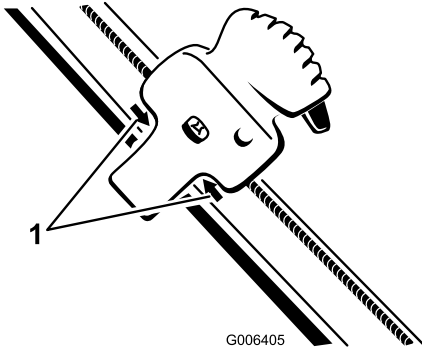

Figure 35
- Position the Quick Shoot control between the 2 arrows located on the right side of the upper handle (Figure 35).